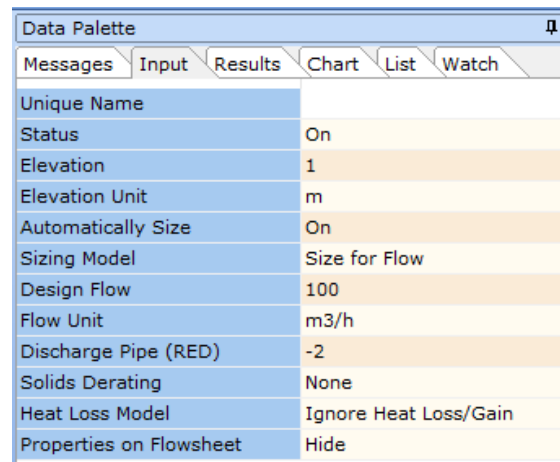

**Figure 25: Highlighted Centrifugal Pump Node.**
22. Let us now edit the default centrifugal pump data by selecting node 3. You should now see that node 3 is highlighted on the flowsheet (Figure 25).